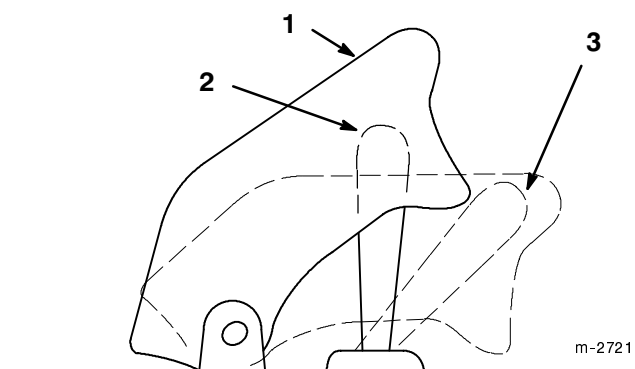

Figure 13
3. Raise the cover and move the power take off (PTO) switch to the “ON” position to engage (Fig. 13).
2. Lower the cover of the power take off (PTO) switch. This moves the switch to the “OFF” position to disengage (Fig. 13).